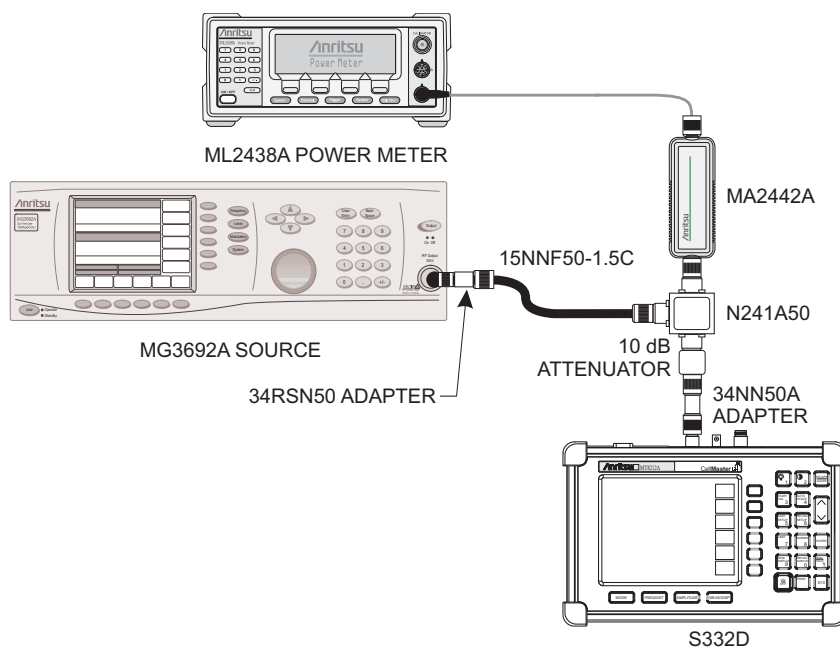

Figure 2. Level Accuracy Test Setup
17. Using the power splitter, coaxial cable, adapters and fixed attenuuator, connect the Site Master to the signal source and the power sensor as shown in Figure 2.
3. Using the power splitter, coaxial cable, adapters and fixed attenuator, connect the Site Master to the signal source and the power sensor as shown in Figure 2.